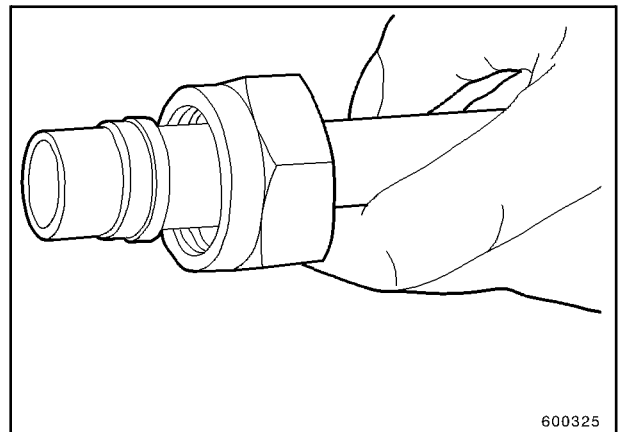

Fig. 5
3. First push union nut and then cutting ring onto the pipe (Fig. 5).